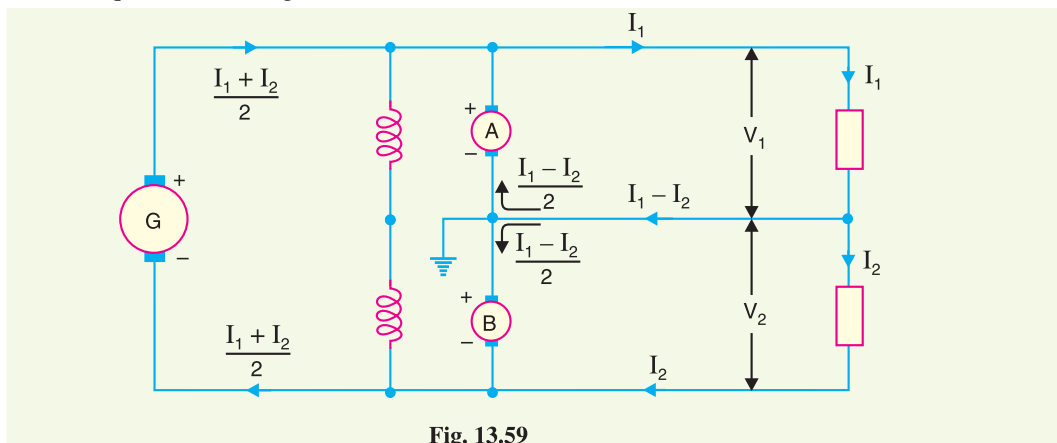

Fig. 13.59
Circuit details. Fig. 13.59 shows the use of a balancer set in a 3-wire d.c. system. The balancer consists of two identical shunt wound machines A and B coupled mechanically and having their armature and field circuits connected in series across the outers. The neutral wire is connected to the junction of the armatures as shown. The circuit arrangement has two obvious advantages. Firstly, only one generator (G) is required which results in a great saving in cost. Secondly, the balancer set tends to equalise the voltages on the two sides of the neutral.
For the condition shown in Fig. 13.59, the machine *B* acts as a motor and machine *A* as a generator. The out of balance current $I_1 - I_2$ flows through the middle wire towards the balancers. Assuming the internal losses of the two machines to be negligible, then armature currents will be equal. Hence, one-half of the current in neutral *i.e.* $(I_1 - I_2)/2$ will flow through each machine as shown.